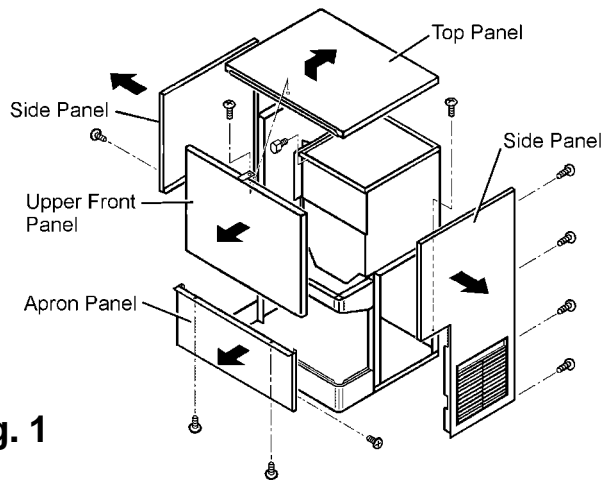

Fig. 1
- 2) Remove the Upper Front, Top and Side Panels to prevent damage when installing the ice dispenser. See Fig. 1.